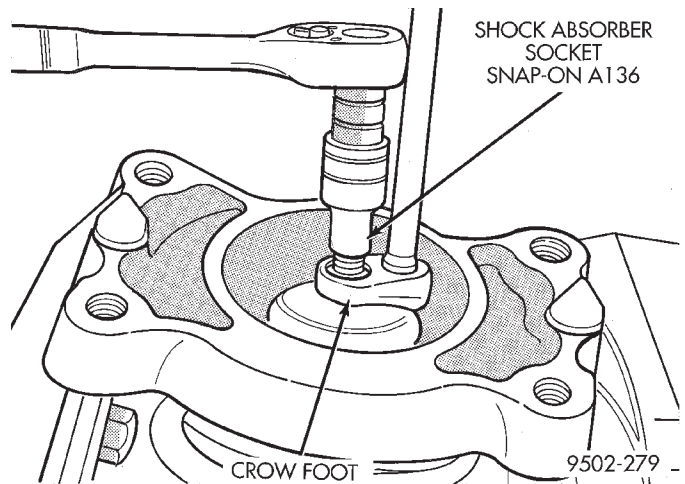

Fig. 71 Retainer Nut Removal/Installation
(3) Compress the coil spring until all coil spring tension is removed from the upper mounting bracket.
(4) Hold the shock rod from rotating using special socket Snap-On A136, or an equivalent, and remove the retainer nut (Fig. 71).
(12) Install the upper shock rod bushing retainer washer. Make sure the concave side is facing up.
(13) Install the shock assembly retainer nut. Hold the shock rod from rotating using special socket Snap-On A136, or an equivalent, and tighten the retainer nut using a crow foot wrench (on the end of a torque wrench and extension) to a torque of 45 N·m (33 ft. lbs.) (Fig. 71).
(14) Slowly release the tension from the coil spring by backing off the compressor drive fully. As the tension is relieved, make sure the upper mounting bracket, isolator, and coil spring align properly. Remove the clamp from the lower end of the coil spring and shock. Push back the spring compressor upper and lower hooks, then remove the shock assembly from the spring compressor.